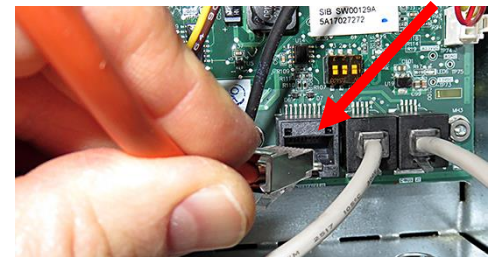

Figure 90
88. Reconnect the RJ controller power cable to the SIB board (see Figure 90).